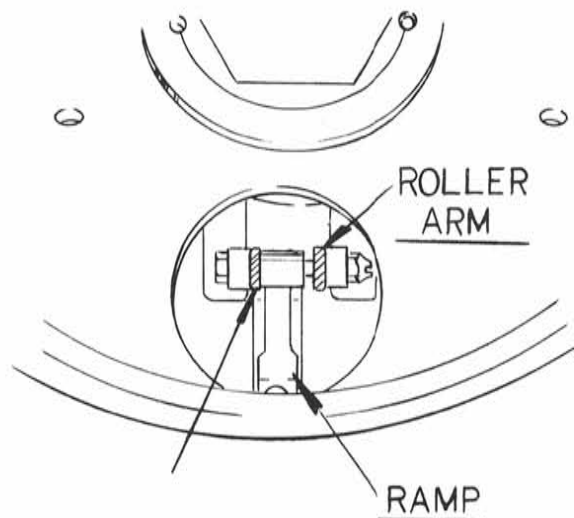

Fig. 6
4. Rotate cover and movable sheave clockwise, looking through inspection slot in cover, insure that roller arms are not contacting ramps (Fig. 6).